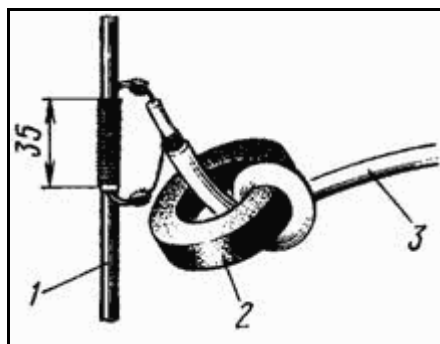
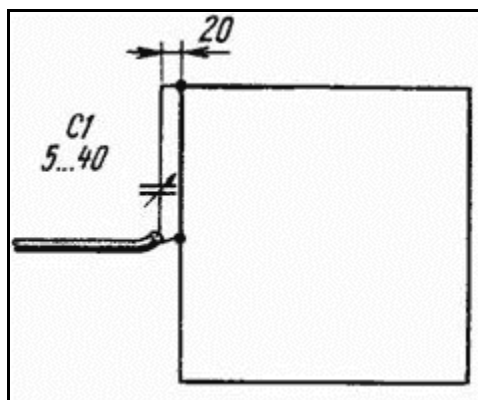

Figure 3
Figure 4
The input impedance of EA is about 45 Ohm. This antenna was fed through 50-Ohm (OD (outer dia)=4 mm) coax, its length was about 1 meter (Figure 3). At connection to driver element (1) there was a 20 mm-ferrite toroid (2) with  $\mu = 20$  put to the cable (3) with one winding on it. You can apply the  $\gamma$  – matching (Figure 4) to match the EA more close to the optimum either to 50- or to 75-Ohm coax cable. You can also come to the optimal match by increasing and decreasing the distance between the driver and first director.
13-element version was set to 145,5 MHz. With slight modification and even without it EA can be explored through all European 2m amateur band. EA gain is more than 15-16 dBm, the 0,7-level fore lap (vertical and horiz.) is less than 30°, the input impedance is 45 Ohm, SWR (145.5 MHz) is 1,8 with 50-Ohm coax and toroid shown in Figure 3.
better fixation of the coax wires, element wire is put one onto another (isolation upon isolation) and are fastened by thread-bandage protected from moisture (by isolation band or plastic clamps), - wire is not used here for it gives parasitic resonances in electro-magnetic field. The driver's shape is a bit collapsed but it is not important when (if only) the driver is adjusted to the desired frequency. The coax (put through ferrite toroid 16-20 mm dia. (Figure 3). The other coax termination is adopted to station output connector.